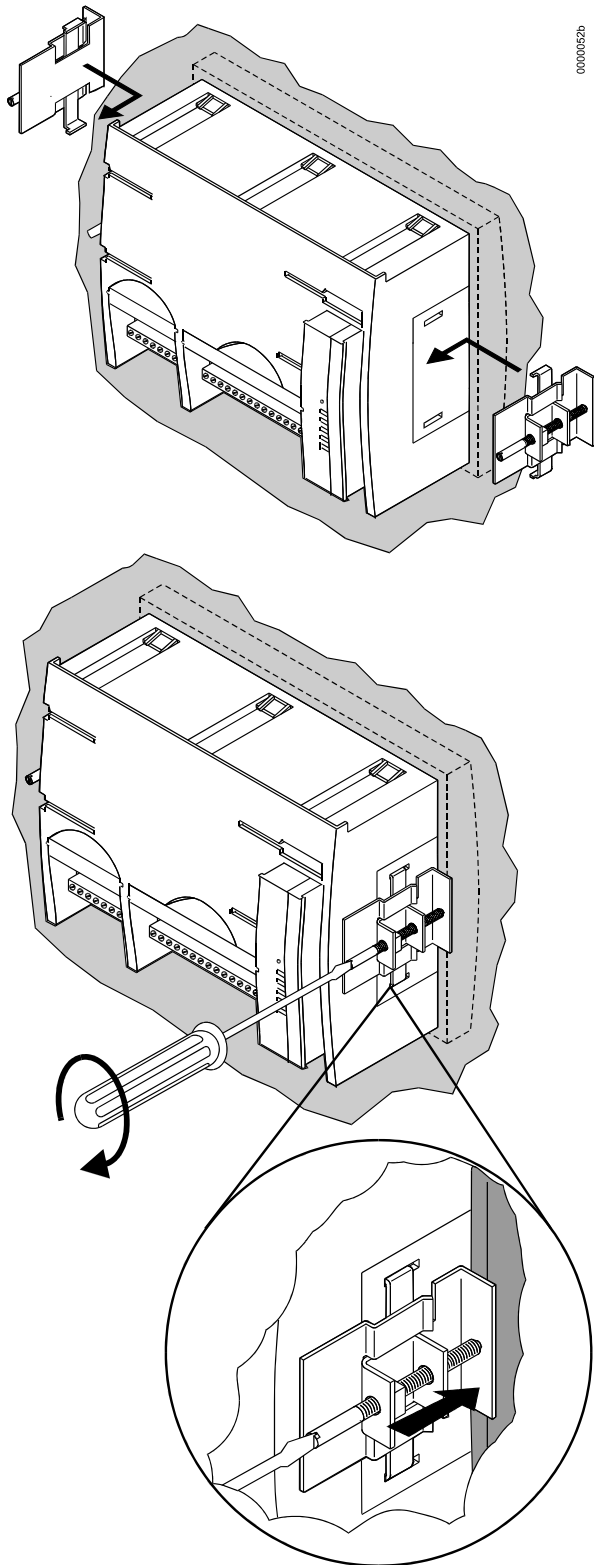

Fig. 10. Fixing controller with front door mounting clamps
5. Attach Front Door Mounting clamps on both sides of the controller and tighten the screws with a screwdriver as shown in Fig. 10.